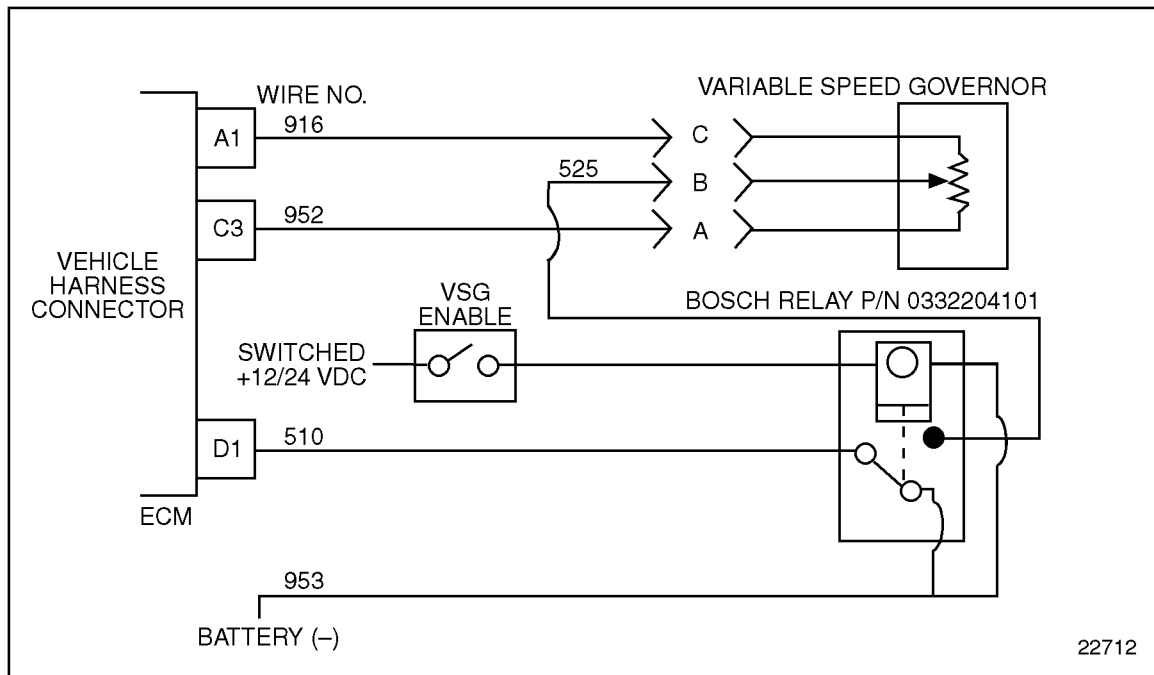

Figure 11-6 Variable Speed Governor Circuit
4. Measure resistance between sockets A and C on the hand throttle sensor harness connector. See Figure 11-6.
1. Install a jumper wire between sockets A and C of the hand throttle sensor harness connector. See Figure 11-6.